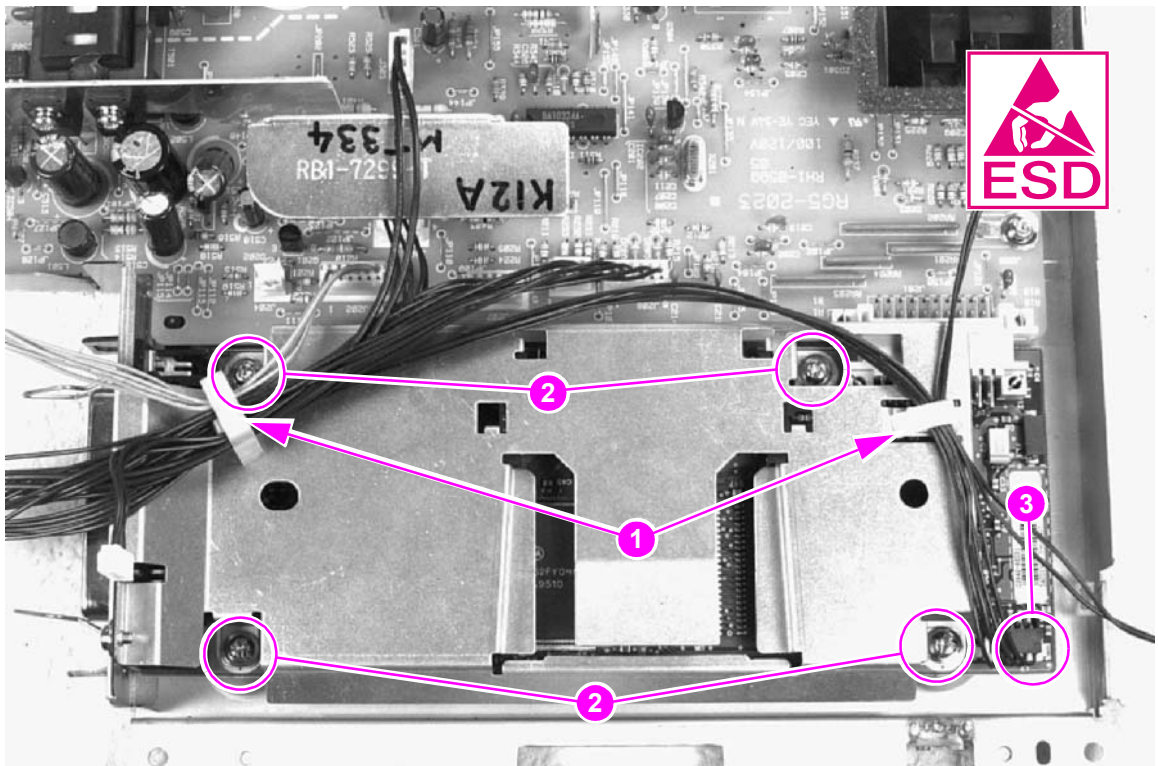

Figure 6-43 Formatter Board removal
- 2 Remove the two cable clips (Figure 6-43, callout 1).
- 3 Remove all (4) screws from the formatter cover (Figure 6-43, callout 2). Lift the I/O shield to remove it.
- 4 If servicing an HP LaserJet 5L or 6L, remove the Control Panel display cable (Figure 6-43, callout 3).